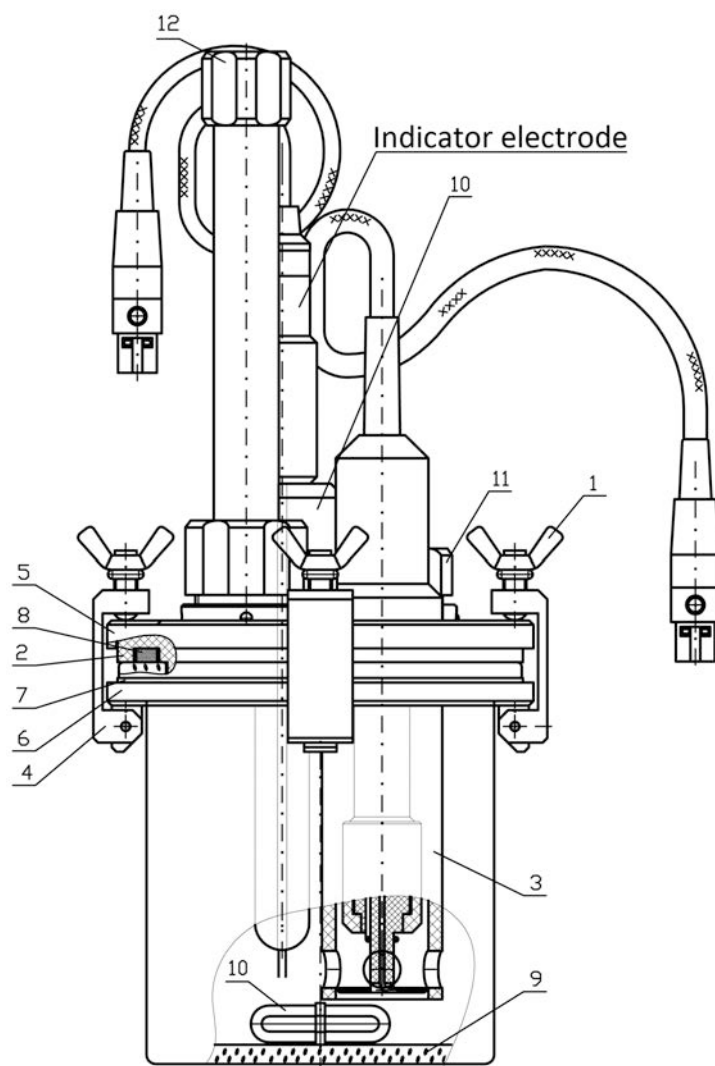
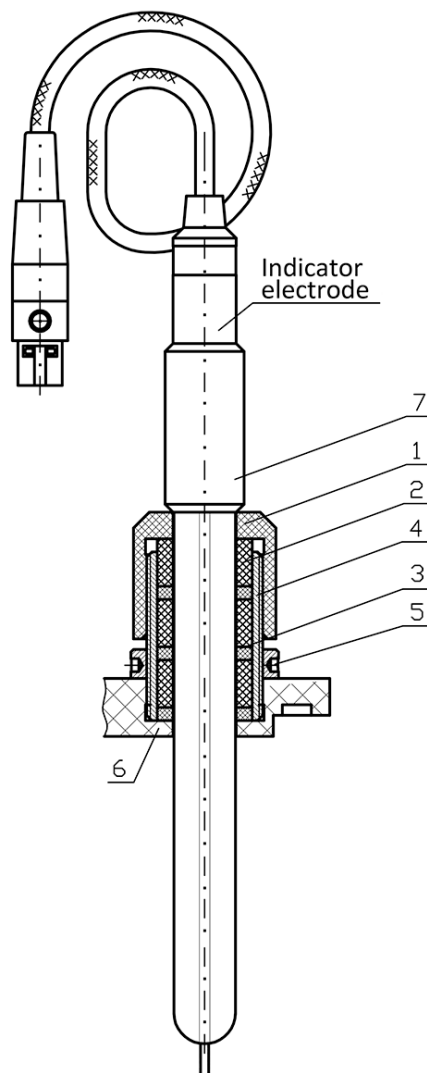

Figure 22
Figure 25
A titration cell is supplied in the assembled condition (Figure 22). Before operation it is necessary to clean a working area of the cell. For that purpose disassemble it.
Partially disassemble the cell (Figure 22) in the following order:
9. Assemble the cell in reverse order. Diametric screws must be tightened one by one providing leak tightness of the inner volume at the account of an O-ring deformation (pos. 8).
- 10.²Insert the indicator electrode until bumping to the electrode attachment point (pos. 13 Figure 22). Do not turn an outer cap (pos. 7 Figure 25), otherwise, leak tightness of the whole unit may be broken;
11. Make sure visually that a septum is installed in the sample inlet port unit (pos. 11 Figure 22).
An O-ring (pos. 8 Figure 22) is manufactured from flexible resistance material – fluorine rubber and does not require replacement during long-term operation.
tion firmness are found during installation of the electrode, it is necessary to adjust the cap (pos. 1) position Figure 25.